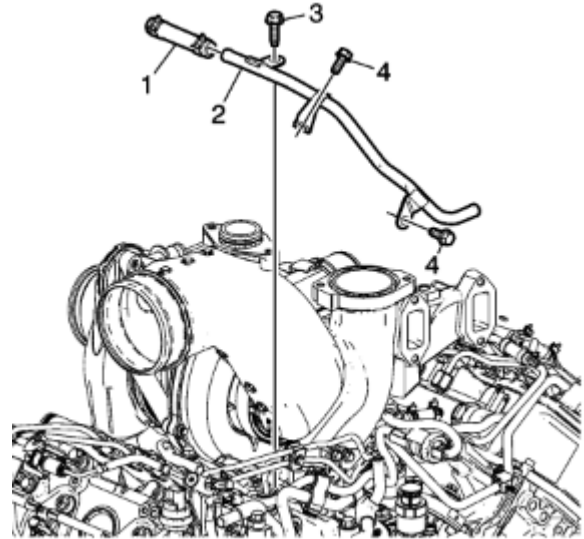

Fig. 116: Turbocharger cooling return hose and pipe installation
- f. Install the turbocharger cooling return pipe (item 2 in figure 116) and the turbocharger cooling return hose (item 1 in figure 116). Install the three mounting bolts (items 3 and 4 in figure 116) and torque them to 18 ft-lb.